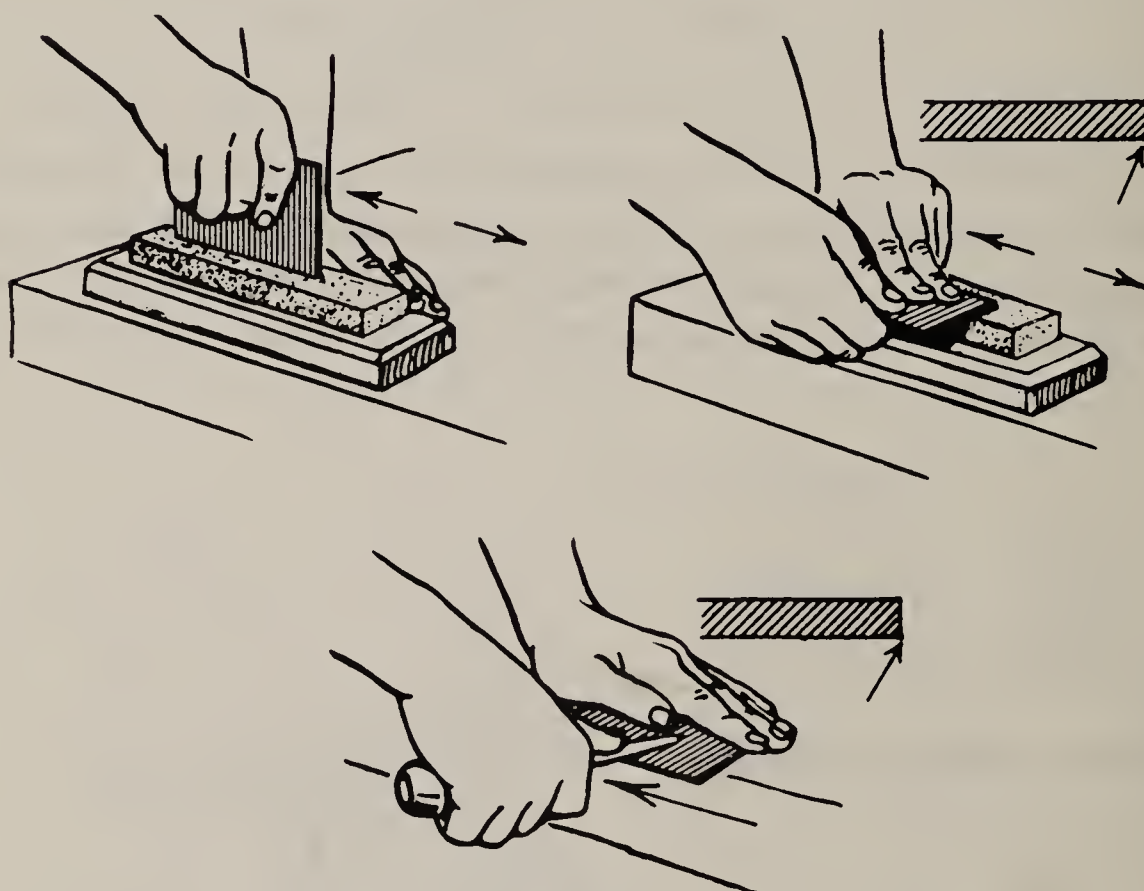

Fig. 16. *Various intermediate steps used in sharpening of a cabinet scraper.*
2. Next, whet the edge as shown in Fig. 16, holding the blade square to the surface of the oilstone. Some woodworkers prefer to hold the scraper square to the edge of the oilstone.
3. Remove the burr by whetting the scraper flat on the oilstone as shown in Fig. 16. The edges should be very smooth and sharp.
4. Draw the edge with three or four firm strokes of the burnisher held flat on the scraper as shown in Fig. 16.